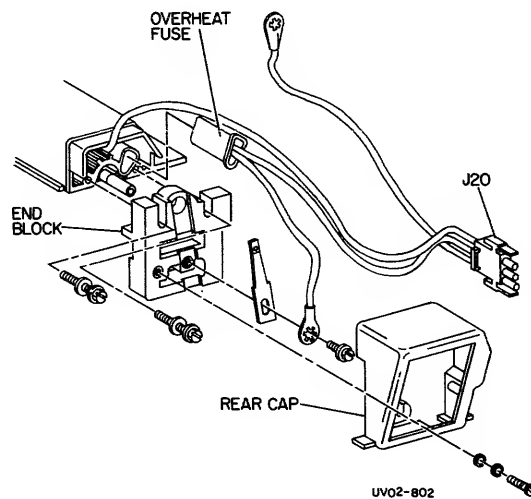

Figure 3-18. Overheat Fuse
3. REMOVE REAR FUSER CAP (Figure 3-18).